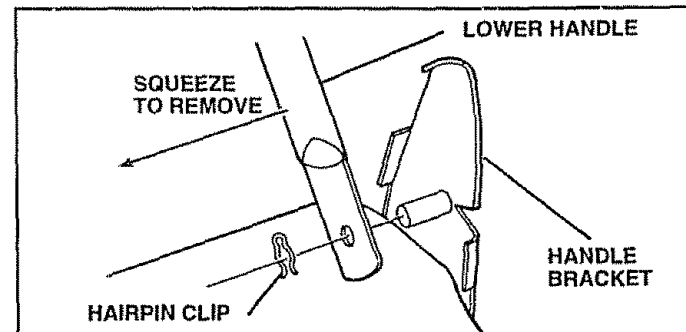

FIG. 11
- Disconnect the lower handle from the handle brackets (See Fig. 11).